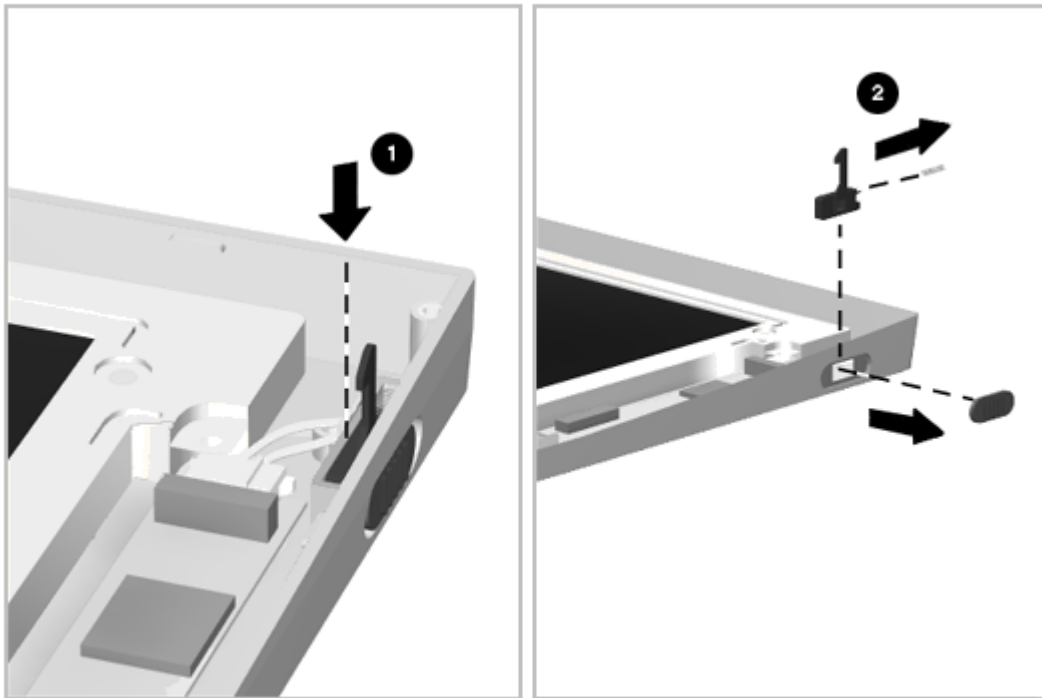

Figure 5-33. Removing the Latch Assembly
3. Using a small flat-blade screwdriver, apply pressure to the latch actuator tab [1] to allow the actuator to be removed (Figure 5-33).
4. Lift out the latch [2] and its attached spring (Figure 5-33).